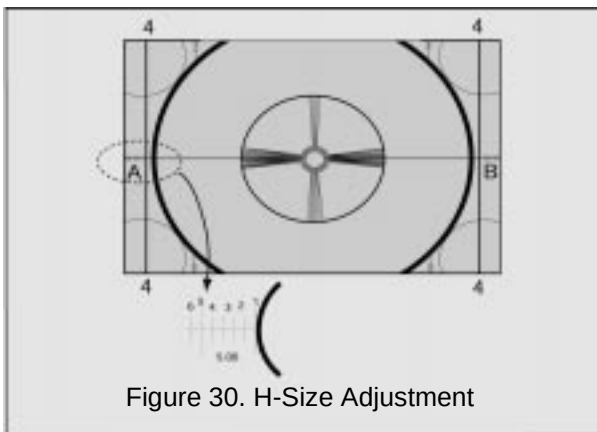

Figure 30. H-Size Adjustment
1. Adjust "D0D" DATA so that width "A" and "B" becomes 5.00 ± 0.40 approx (when using factory pattern). See Fig. 30